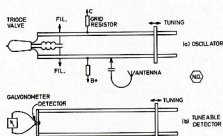

FIG. 2
As stated above, the writer prefers to use an a.t.u. for the reasons given. There are various satisfactory forms of a.t.u. but one which the writer has used for many years and which is extremely flexible electrically and yet does not require the coils to be tapped for optimum feeder loading, is shown in Fig. 2.
Fig. 2—A suggested aerial tuning unit for use with the G5RV aerial. C1 is a 200/200 pF. split-stator transmitter capacitor, the plate spacing being determined by the power it will have to handle. The coupling capacitor C2 consists of three 500 pF. broadcast receiver variable capacitors connected in parallel. If necessary, this combination may be supplemented by a bank of switched high-voltage mica capacitors.
During his years at Yale University, George Southworth, lecturing and doing graduate studies, performed quite a number of experiments with u.h.f. oscillators and circuit techniques. These techniques subsequently came into common use by Radio Amateurs in the period 1920-1930. Some of this early equipment is illustrated in Fig. 2.
30.5 MHz is the sound IF frequency of 36 per cent. of TV sets and is 36 MHz the video IF frequency, exactly 5.5 MHz apart. By looking at Figure 1 you can see that the TV set has little if any response outside the IF channel. Hang on—wait a minute, if this is so how do I cause the interference? Look again at Figure 1, it will become obvious that this is a voltage versus frequency graph. If 100 per cent. response is shown as 0dB and if the plotting of response is done in decibels versus frequency graph the response pattern shown is vastly different as shown in Figure 2.
Turning once again to Figure 2, it can be seen that the TV's response to your signal at 32.00 MHz is only perhaps 20dB down on the response at mid-channel. The skirt selectivity of a good SSB receiver filter should be at least 100dB down for a minimum of interference from adjacent stations.
The older TV sets will likely have a better IF selectivity curve. The reason for this being that up to four video IF stages were used with their attendant coil and adjacent channel sound and picture traps. The newer sets have as few as two video IF stages and usually no adjacent channel sound or picture traps — although for some there are available at a price. It can be seen by comparing the IF selectivity curves of a two-stage IF Figure 2, with no adjacent channel traps and a four-stage IF, Figure 3, with adjacent channel traps that you will more easily interfere with the former. It is a pity that the IF selectivity of many TV sets has been so degraded in recent years. This appears to be in an effort to cut costs, and as a result it leaves the sets wide open to interference from a variety of sources. You will find sets of different manufacture and/or different models are susceptible to interference to varying degrees.